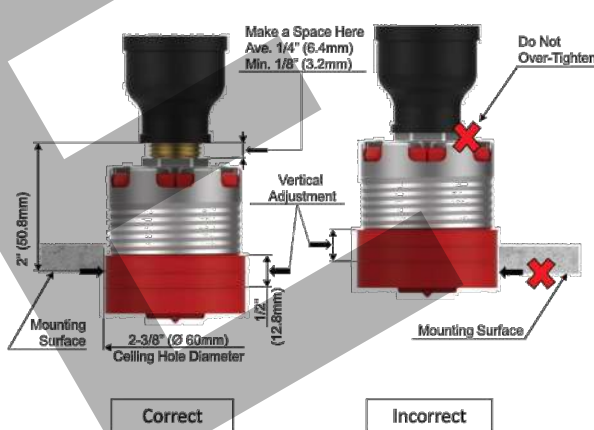

Figure 3: Installation
**Step 1:** The installation requirements for the sprinkler are as follows: to be installed only in the pendant position with the watertight perpendicular to the ceiling. Install the sprinkler fitting so that the distance from the face of the fitting to the mounting surface will be nominally 2 inches (50.8mm) as shown in Figure 3.
**Step 3:** If desired, the Protective Cap may also be used to locate the center of the clearance hole by gently pushing the ceiling material against the center point of the Protective Cap. Before the installation of the ceiling, the sprinkler installation can be started with a 2-3/8 inch (60mm) diameter clearance hole (Ref. Figure 3). Use the "Vertical Adjustment" indicator on the Protective Cap to check for proper installation height (Ref. Figure 3).